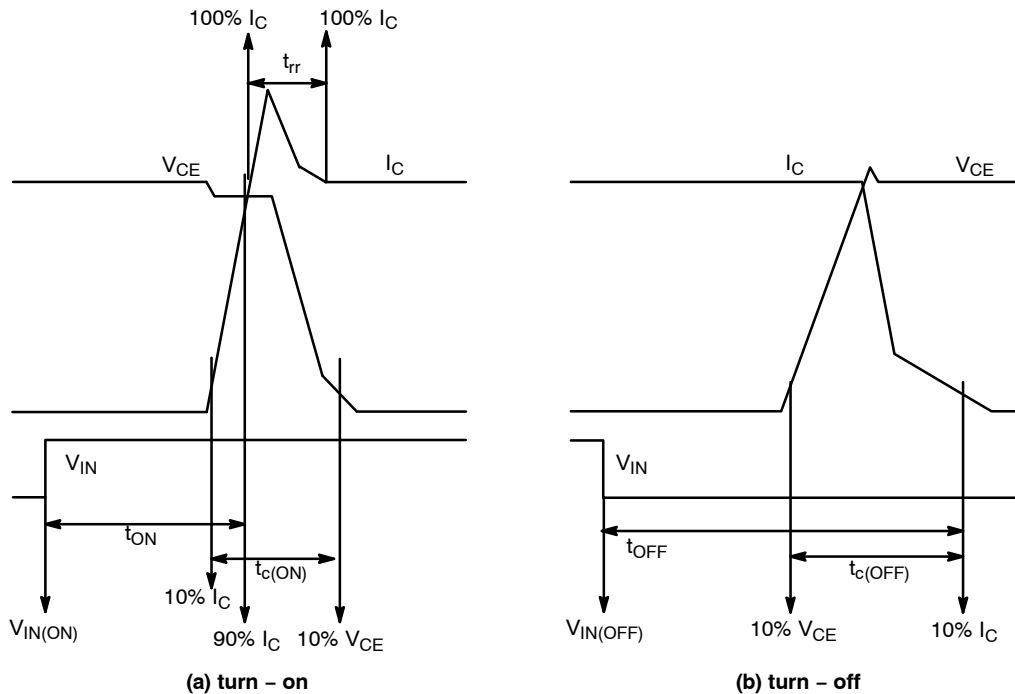

Figure 3. Switching Time Definition
6.  $t_{ON}$  and  $t_{OFF}$  include the propagation delay time of the internal drive IC.  $t_{C(ON)}$  and  $t_{C(OFF)}$  are the switching time of IGBT itself under the given gate driving condition internally. For the detailed information, please see Figure 3.